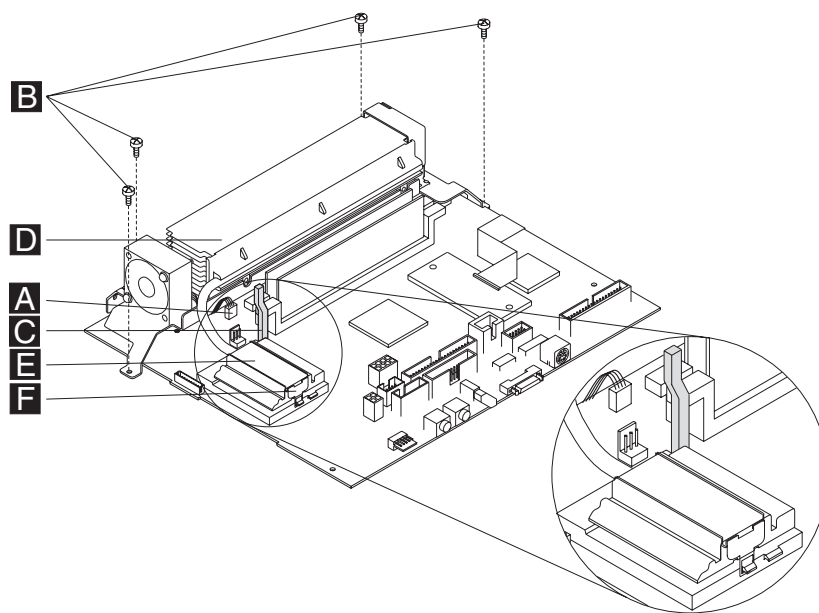

Figure 78. Removing the processor
4. Disconnect the fan power cable **A** from the system board, as shown in Figure 78.